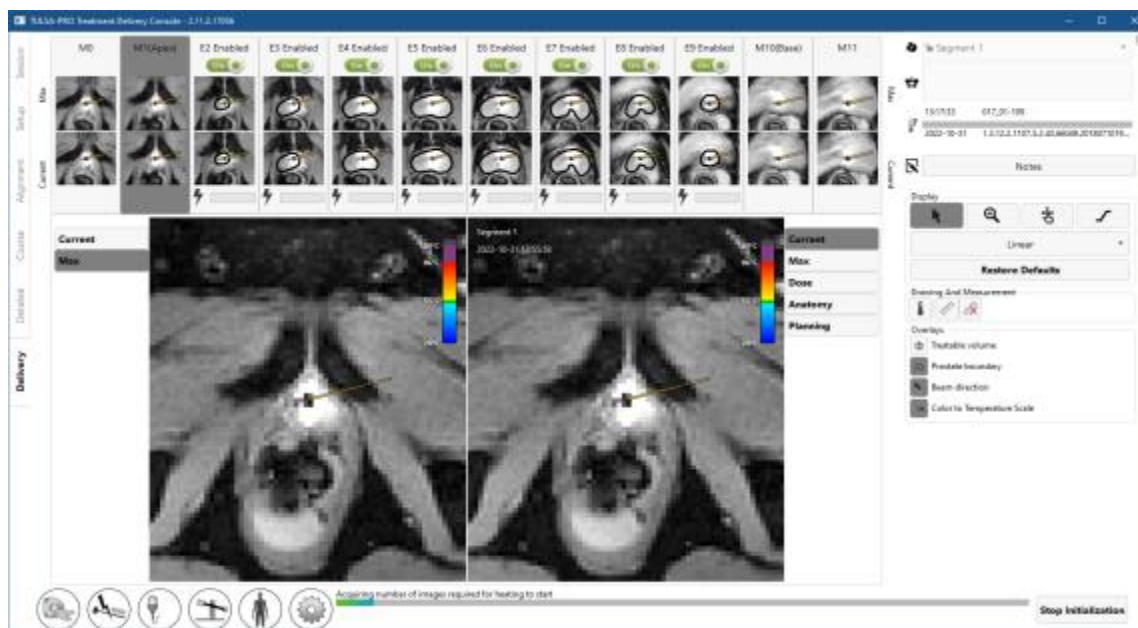

Figure 41: Treatment Initialization state
3. **Radiologist:** Click **Start treatment** on TDC. It will prompt you to verify the core body temperature using an external temperature measurement device before proceeding. Enter the temperature in degrees Celsius and click **Confirm**. The TDC will go into **Treatment Initialization** state and is now ready to receive thermometry images (*Figure 41*).